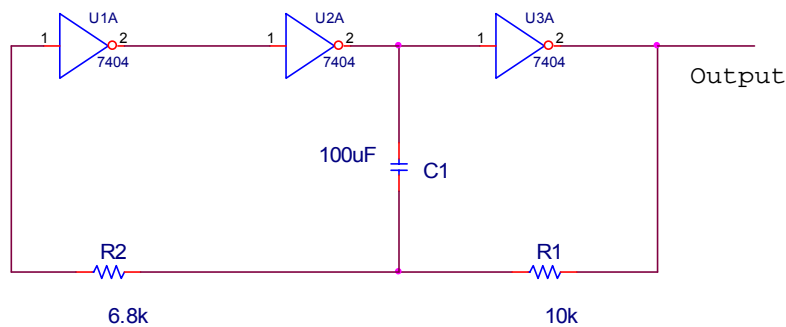

Fig.13-1
Step 2: Install the circuit of Fig 13-1 on the breadboard. Remember; connect 74C04's Pin 14 to +5v, and its pin 7 to ground. It's true that a 35v capacitor can withstand reverse polarities of less than 5v. Connect output point Y to 8 Bit LED Display "0".